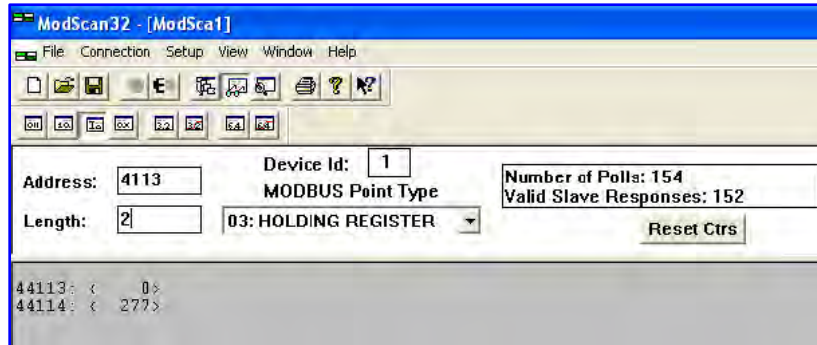

Figure 53 – ModScan32 Connected to Modbus Device with Registers 4113 and 4114 on Display (Rollover Count)
- See Figure 53 below for a “Rollover count” number example.